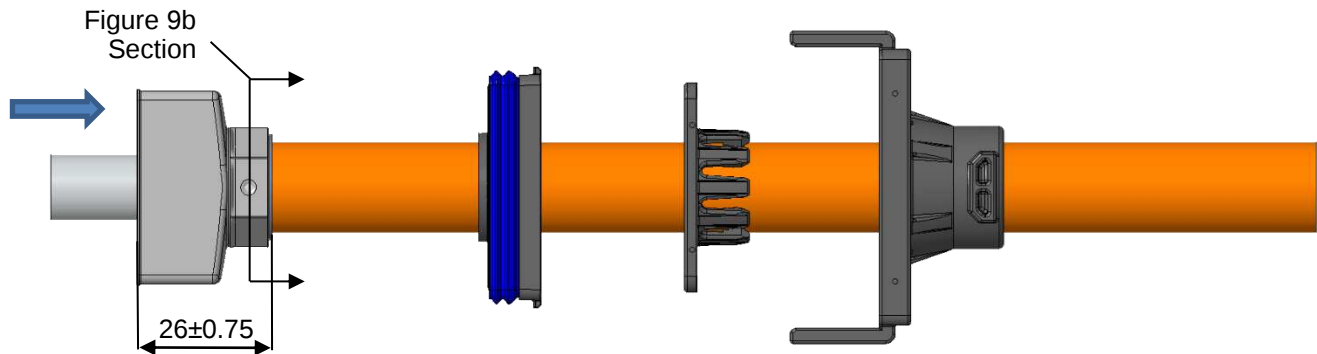

Figure 9a: Ferrule Crimp
6. Crimp outer ferrule using the tooling specified in Section 4 in place as shown in Figure 9a using dimensions in Table 3.